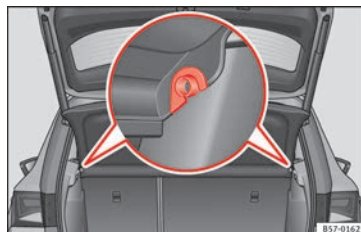

Fig. 160 In the luggage compartment: removing and installing the rear shelf.
- Remove the rear shelf from the side supports » Fig. 160 by pulling it upwards and then take it out.
- Insert the cover horizontally so that the “recess” fits onto the axis of the supports » Fig. 160 and press down until it engages.